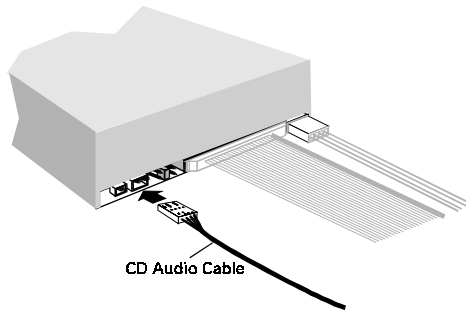

Figure 2-9: Connecting CD audio cable to your CD-ROM drive.
4. If you are connecting your drive to an audio card, connect the CD audio cable to the CD-ROM drive as shown in Figure 2-9.